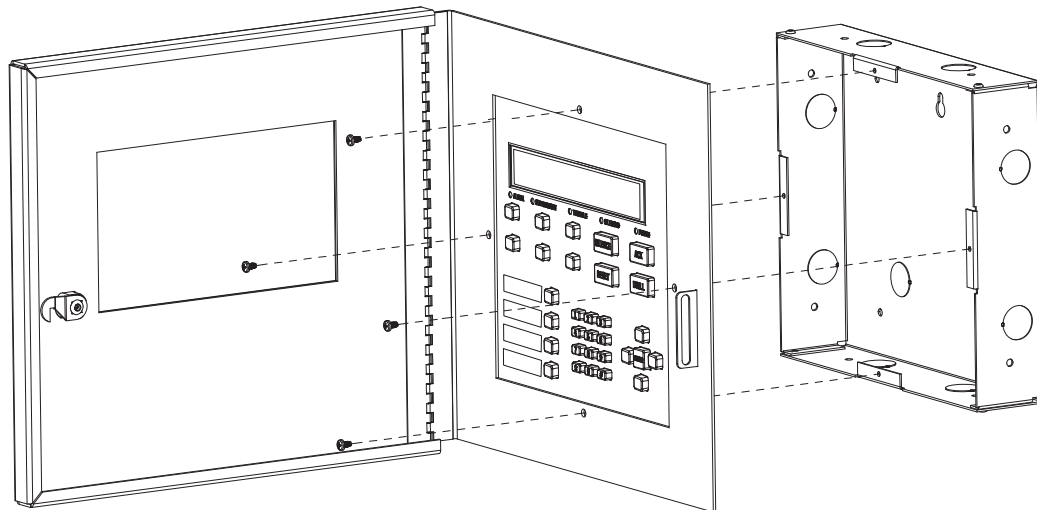

Figure 4.27 Attaching Annunciator / Door Assembly to Backbox
9. Attach the door assembly to the backbox using the screws provided. Refer to Figure 4.27.